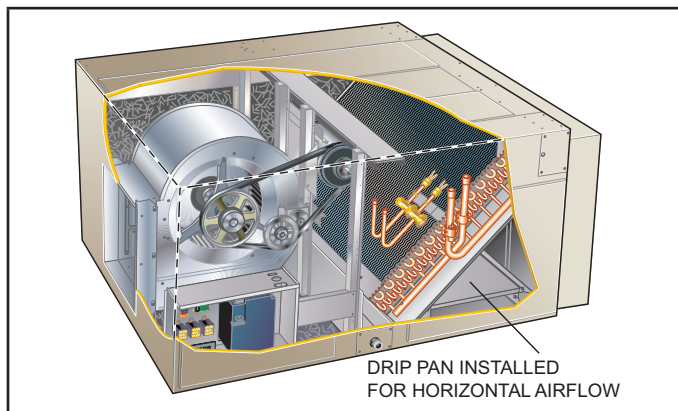

FIGURE 2. Drip Pan in Horizontal Airflow Position
If the unit is installed for horizontal airflow, the drip pan must be positioned as shown in figure 2.
- 4 - Move drip pan to location shown in figure 2. Ensure that insulation parts remain on the bottom of drip pan.